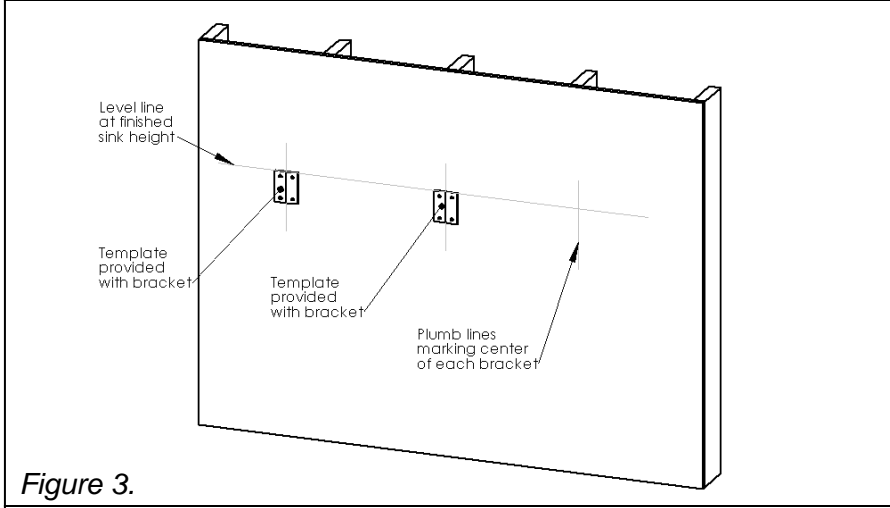

Figure 3.
5. Using the brackets as templates, hold to the wall according to your installation needs and mark all holes. Be sure to check all measurements and layout at this point. *See Figure 3.*